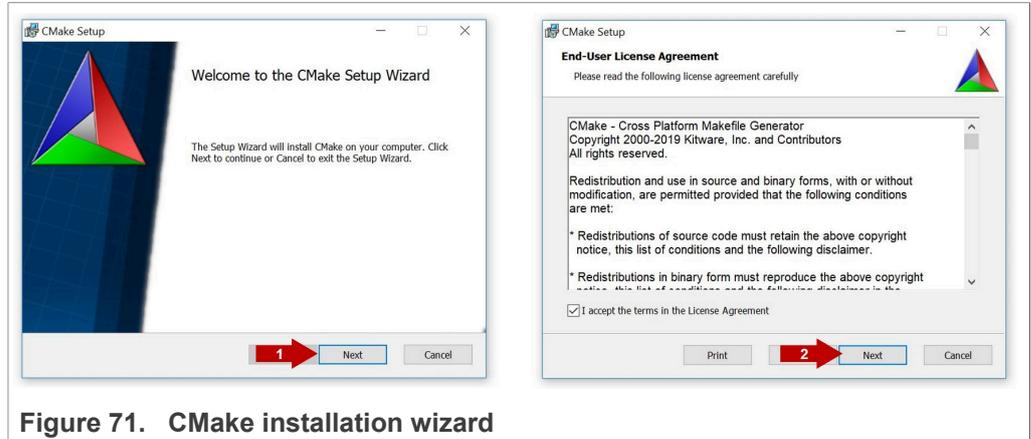

Figure 71. CMake installation wizard
- The CMake installation wizard will open. Click (1) **Next** and (2) **accept** the End-User License Agreement as shown in Figure 71: